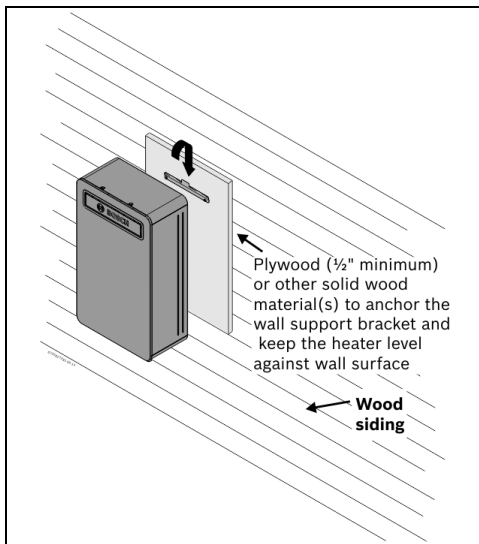

Fig. 6 Installation on wood siding
- The water heater is approved for installation directly on an outside wall. Secure the wall mounting bracket provided with the water heater to a wall surface. See fig. 6.
recommended that a support board be first attached across a pair of studs at the bottom of the unit as shown in fig. 6.